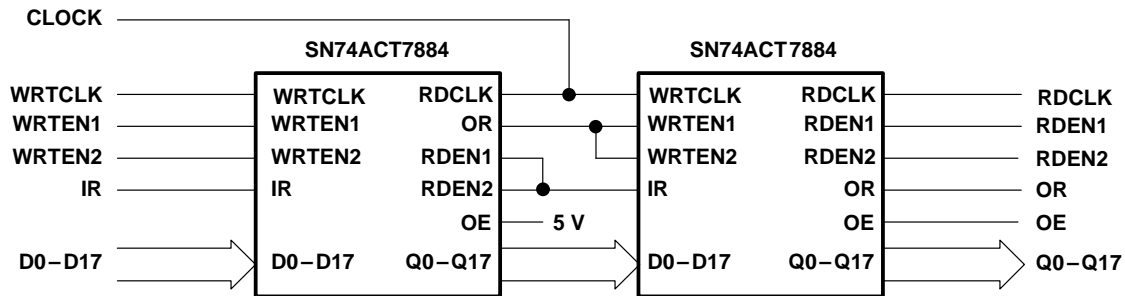

Figure 9. Word-Depth Expansion: 2048/4096/8192 Words × 18 Bits, N = 2
The SN74ACT7884 is expandable in both word width and word depth. Word-depth expansion is accomplished by connecting the devices in series such that data flows through each device in the chain. Figure 9 shows two SN74ACT7884 devices configured for depth expansion. The common clock between the devices can be tied to either the write clock (WRTCLK) of the first device or the read clock (RDCLK) of the last device. The output-ready flag (OR) of the previous device and the input-ready flag (IR) of the next device maintain data flow to the last device in the chain whenever space is available.